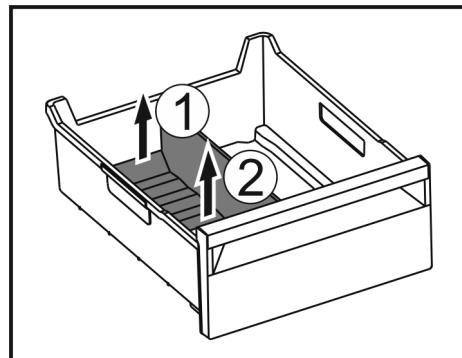

Fig. 175
- ▶ Lift the rear part of the ice compartment divider. Fig. 175 (1)
- ▶ Remove the ice compartment divider upwards. Fig. 175 (2)